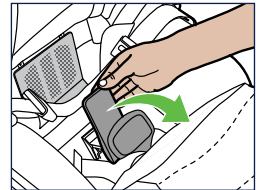

Figure 5
Step 1. Lift the SMART Lock® handle up (Figure 5).